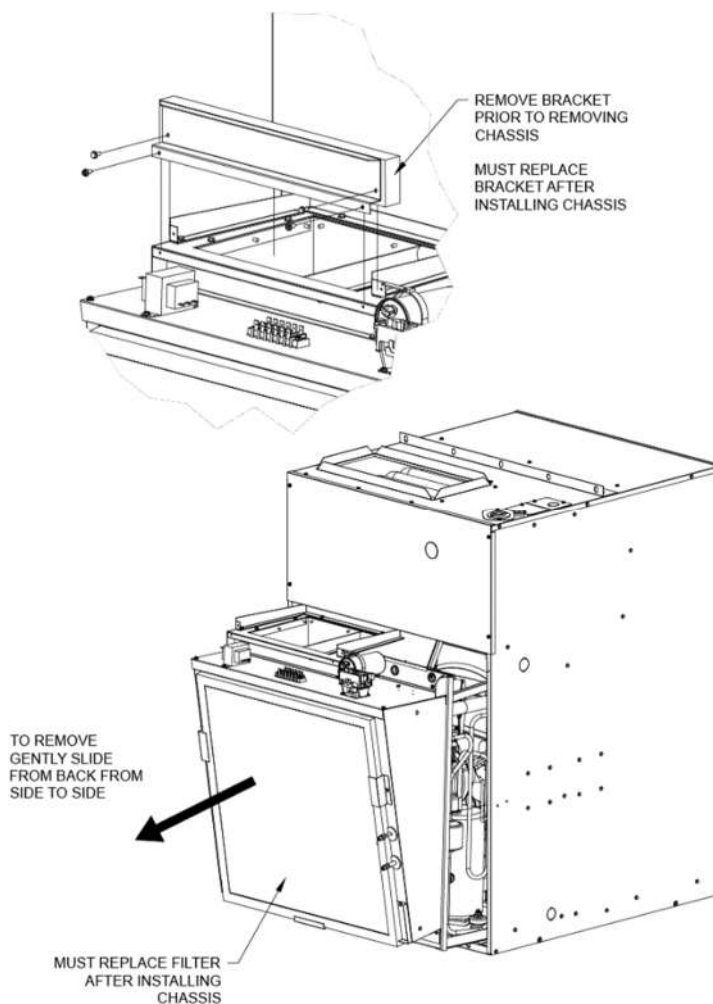

FIGURE 17 -Air Filter Location
5. If an air filter is to be applied to the unit remove lower front access panel to replace filter. (**FIGURE 17 - Air Filter Location**). Place the filter into the filter bracket.